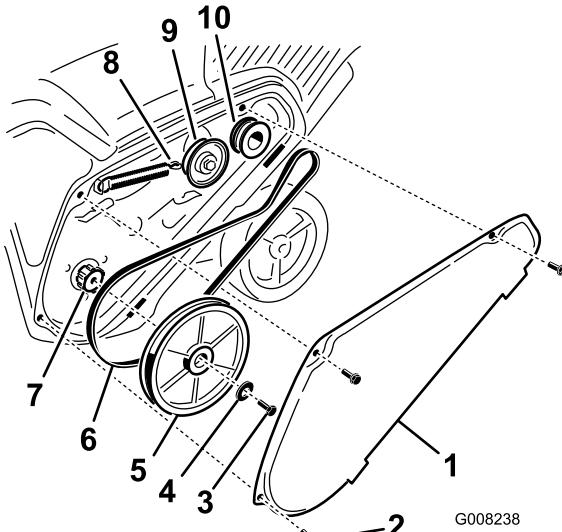

Figure 24
1. Remove the drive belt cover by removing the 3 bolts as shown in Figure 24.
2. Unhook the brake spring from the idler arm to release the belt tension (Figure 24).
3. Remove the screw and curved washer that holds the rotor pulley (Figure 24).
4. Remove the rotor pulley and the drive belt (Figure 24).
**Note:** Route the new drive belt first around the engine pulley, then the idler pulley, and finally around the loose rotor pulley positioned just above the rotor shaft (Figure 24).
6. Install the rotor pulley onto the rotor shaft (Figure 24).
7. Install the curved washer and the rotor pulley bolt and tighten them securely (Figure 24).